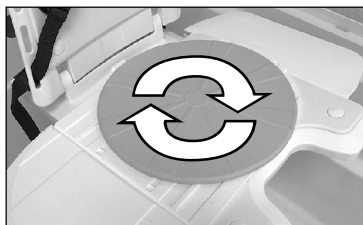

Figure 17
2. Seat the user on the swivel plate and swivel or slide toward the center of the bath lift. (Fig. 17).